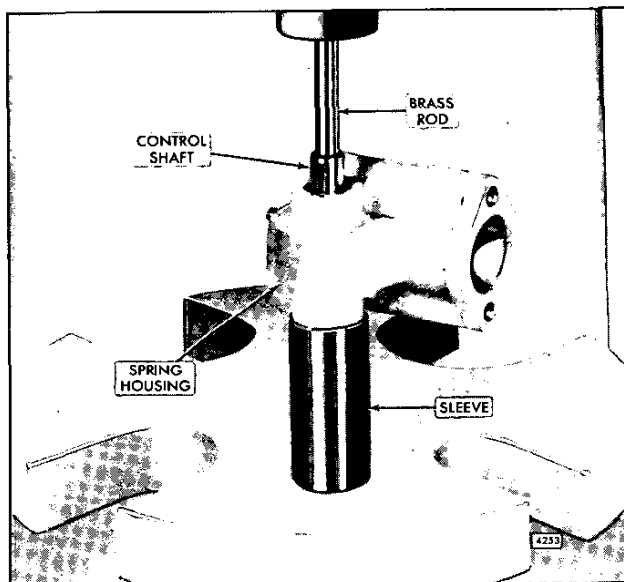

Fig. 4 - Removing Shaft and Bearing from Spring Housing
5. Support the spring housing in an arbor press. Use a brass rod to press the shaft, bearing and plug (if used) from the housing (Fig. 4).